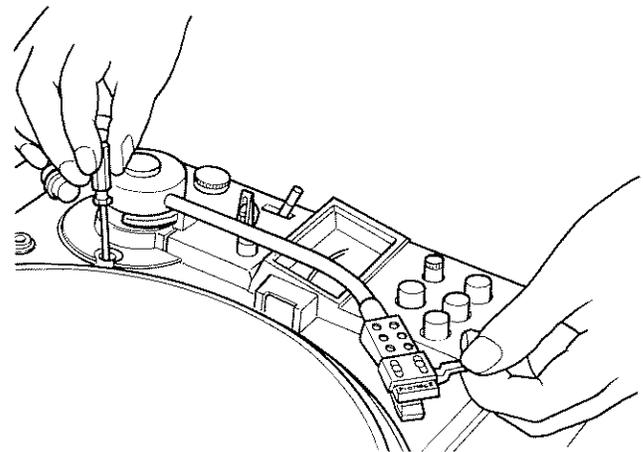

Fig. 11
3. Return the tonearm to the arm rest, and then turn and adjust the stylus descent-position adjusting screw using the accessory screwdriver (see Fig. 11, 12).